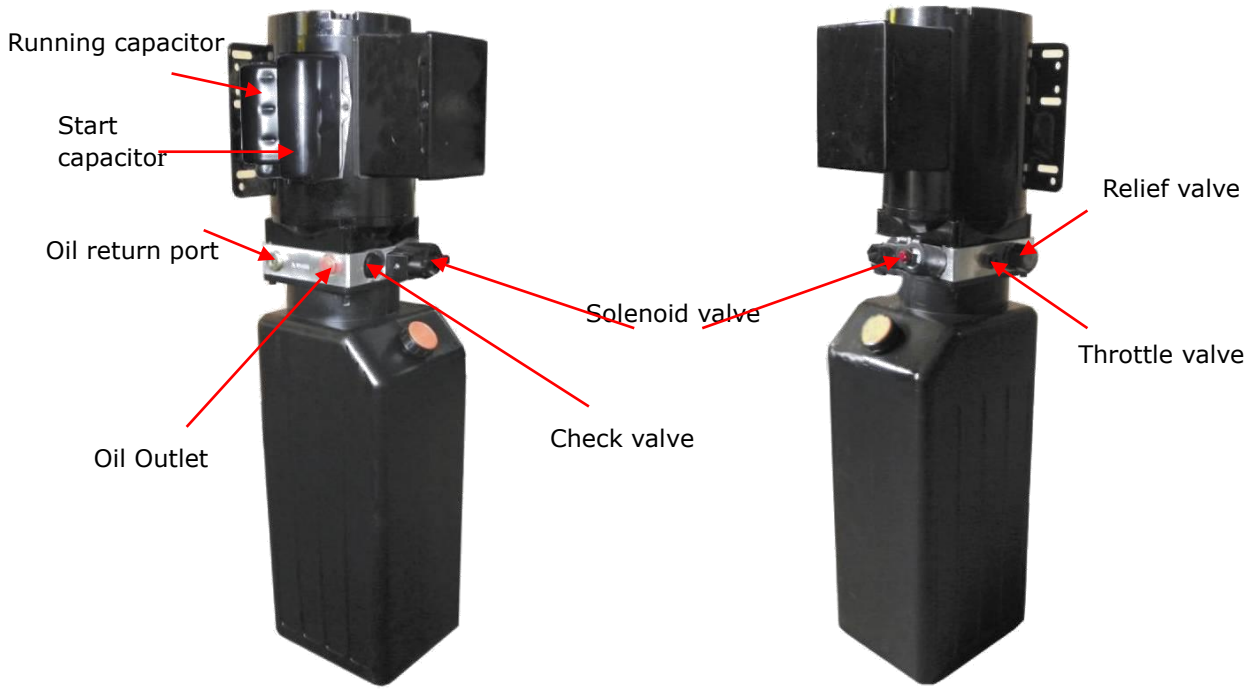

Fig. 53
b. INDYPRO electric power unit, 220V/50HZ, 1 phase (See Fig. 53)